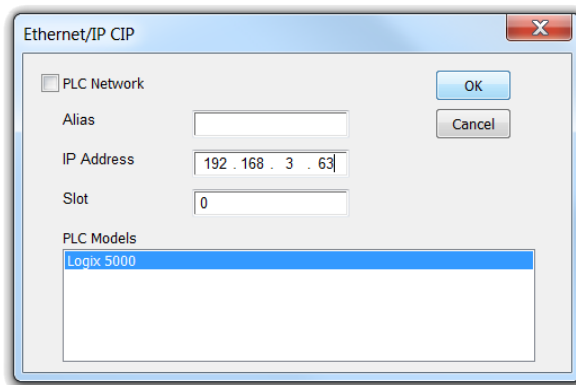

Figure 4- Configure the Ethernet/IP CIP connection.
- 4.6. For our application the slot will remain zero as shown in figure 4.